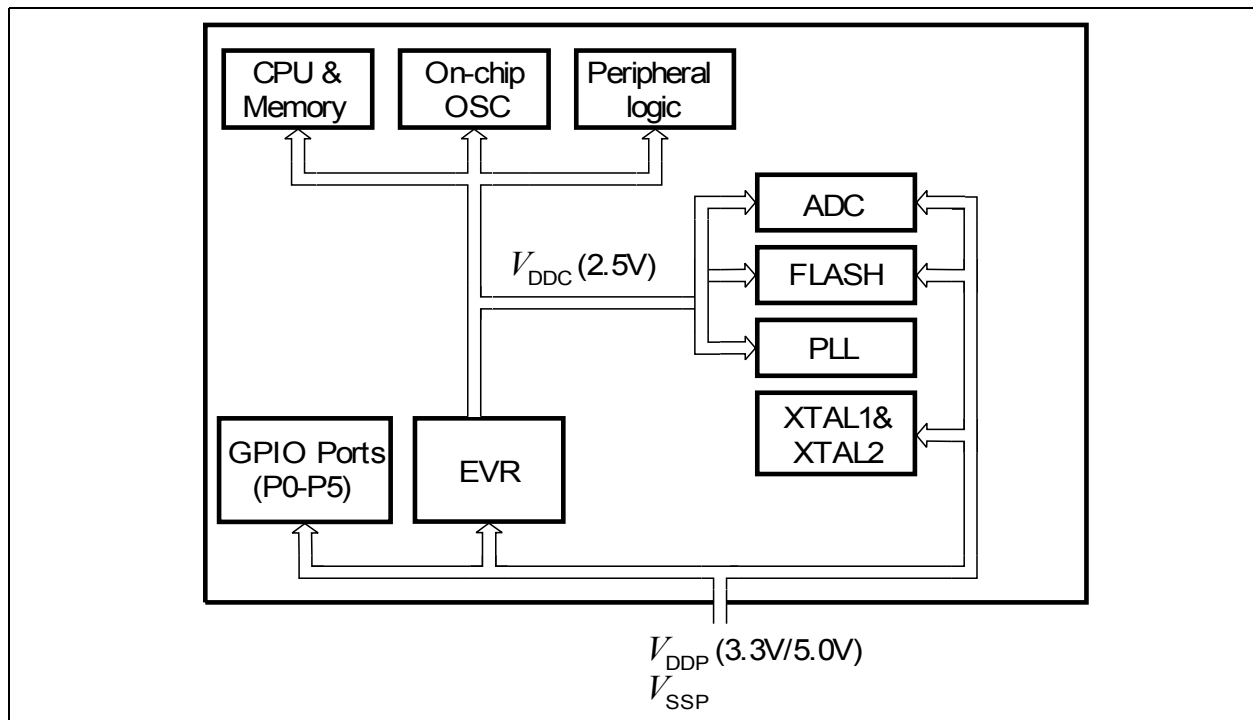

**Figure 19 XC87x Power Supply System**
**Figure 19** shows the XC87x power supply system. A power supply of 3.3 V or 5.0 V must be provided from the external power supply pin. The 2.5 V power supply for the logic is generated by the EVR. The EVR helps to reduce the power consumption of the whole chip and the complexity of the application board design.